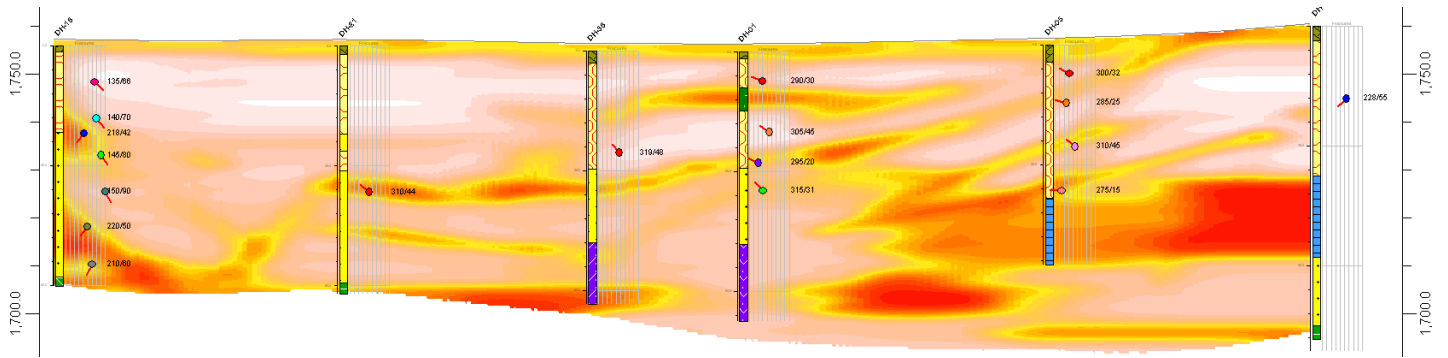

Figure 21
- A more detailed understanding of the relationships between the borehole fractures and potential flowpaths can be obtained by using the *ModOps / Solid / Section* program to vertically slice through the modified hydraulic conductivity model (Figure 21).